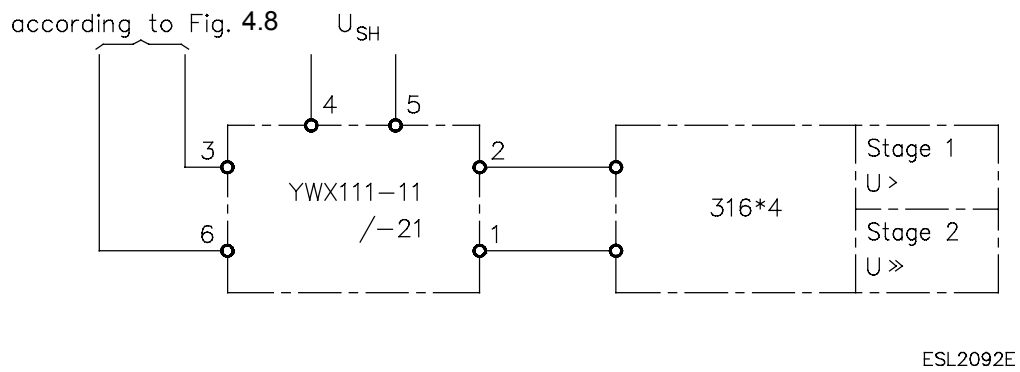

Fig. 4.9 Wiring diagram for a two-stage protection scheme
- Fig. 4.9 Wiring diagram for a two-stage protection scheme